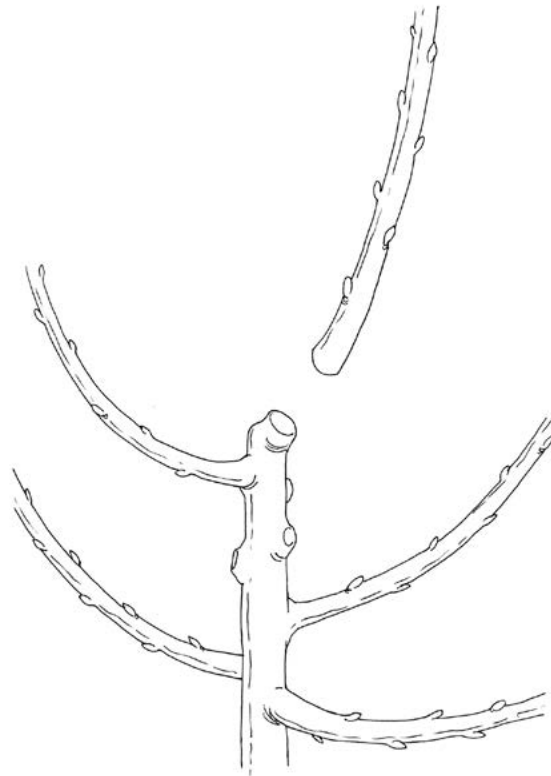

Figure 25
- If the tree is growing on a semi-vigorous rootstock and one or two very strong leaders developed from the cut made at planting, remove these to keep the tree in balance (Figure 25).